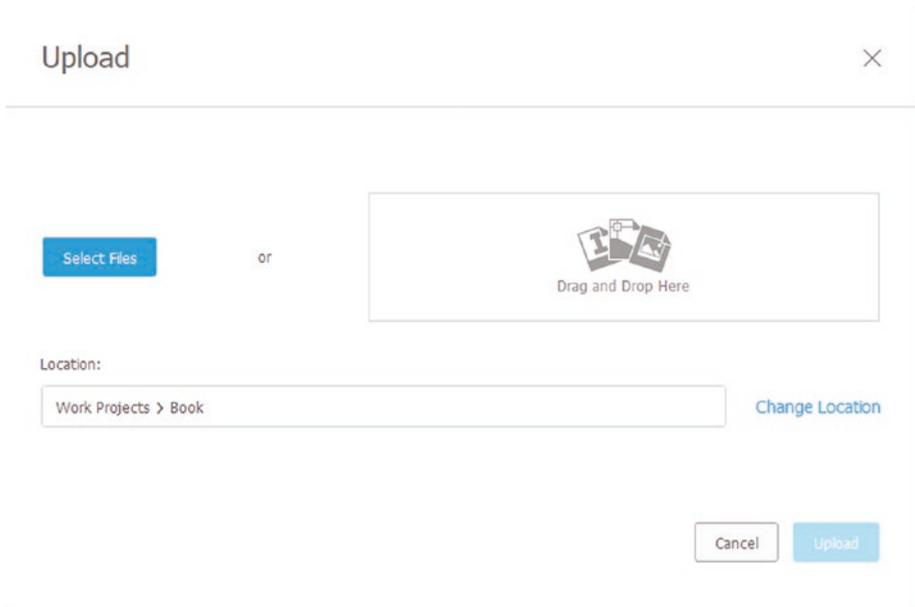

Figure 3-23. Drag and drop the STEP file or browse to the file
5. A pop-up window will appear, and you can drag and drop or select the STEP file you want to use in this project. See Figure 3-23.